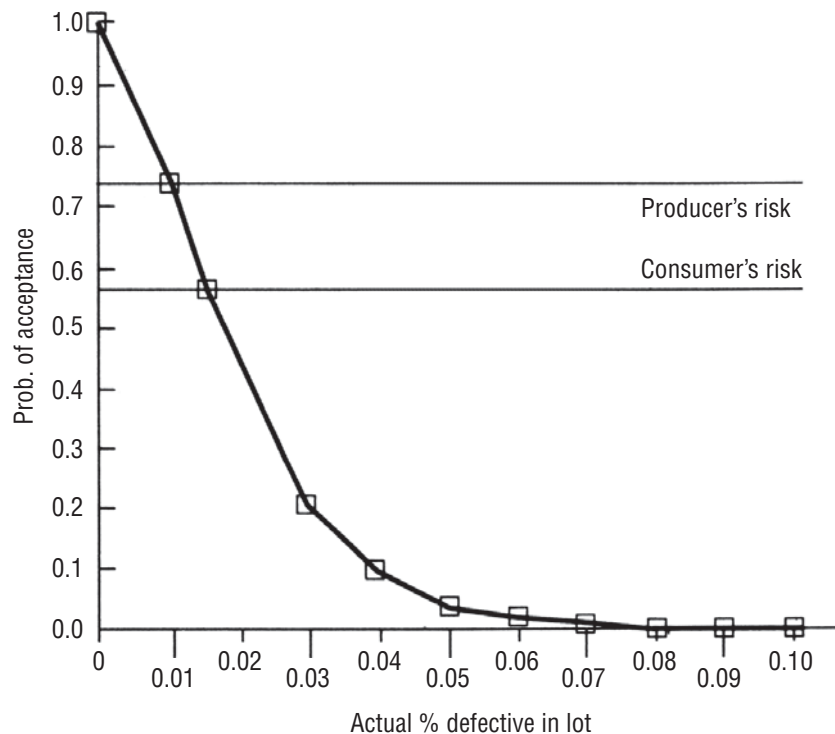

FIGURE 10-11 THE OPERATING CHARACTERISTIC (OC) CURVE FOR MAUREEN'S ACCEPTANCE-SAMPLING SCHEME
The bottom part of the template calculates various probabilities that give Maureen more information about the behavior of her sampling scheme. Cells C11 to H11 originally contained incoming qualities ranging from 0 to 5 percent, by single percentage points. Because our LTPD was 1.5 percent, we replaced the original 2 percent in cell E11 (shaded in color) by 1.5 percent. The additional information can be seen most easily in two graphs that the template can produce. Maureen can get an *operating characteristic* (OC) graph (Figure 10-11). The height of the OC curve tells her the consumer’s risk, the probability that her sampling scheme will *accept* a lot from a production process with an input quality read on the horizontal axis. Subtracting that probability from one gives the producer’s risk as the input quality varies. As you would expect, the probability that a lot will be accepted falls as production quality becomes worse.